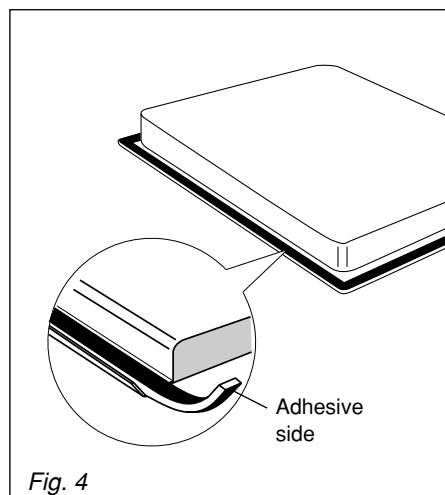

Fig. 4
2. Apply the adhesive seal around the edge of the hob, making sure that the ends do not overlap or leave a space (fig. 4).